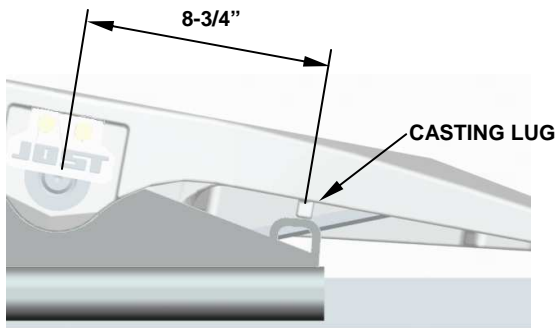

FIGURE 5
1. The topplate casting lugs must rest squarely on the mounting bracket tilt stops. (see figure 5)